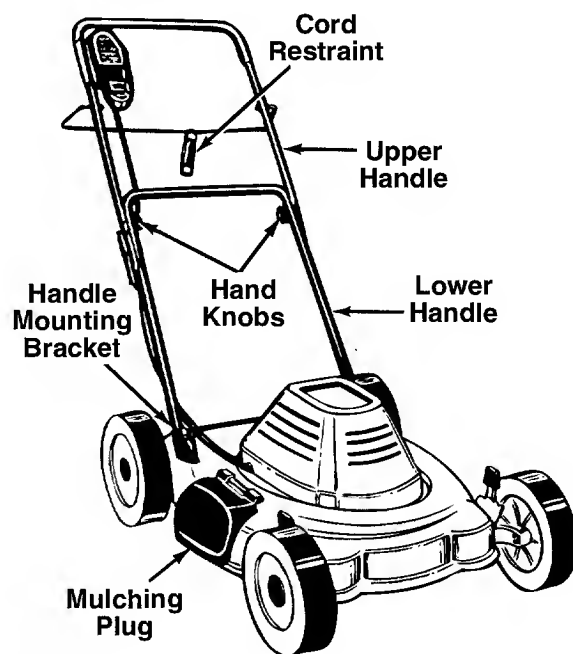

FIGURE 1.
- Pull up and back on the upper handle to raise the handle into the operating position. Make certain the lower handle is seated securely into the handle mounting brackets. Tighten the hand knobs on each side of the handle. See figure 1.